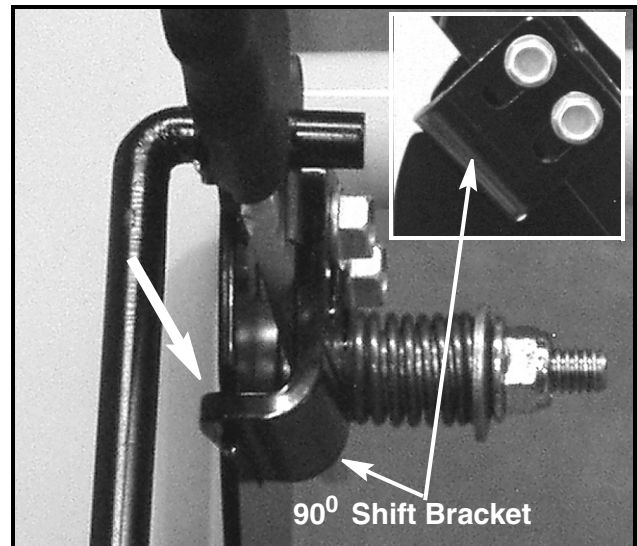

FIGURE 10
20. Place the short leg of the 90° Shift Bracket (Item 1) into the slot in the transmission index bracket. Align the slots in the shift bracket with the holes in the shift lever and hand start the two 1/4"-20 TapTite (Item 11) screws into the shift lever. See Figure 10.